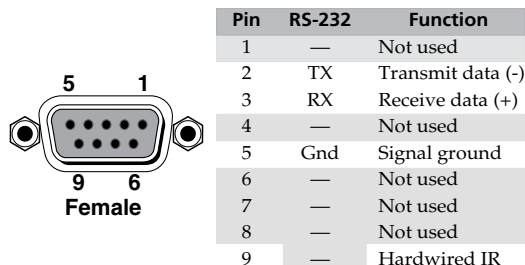

Figure 2-5 — RS-232 port pin assignment
- ④ **RS-232 connector** — Connect a host device, such as a computer or control system, to the switcher via this 9-pin D connector (figure 2-5) for remote control of the switcher.